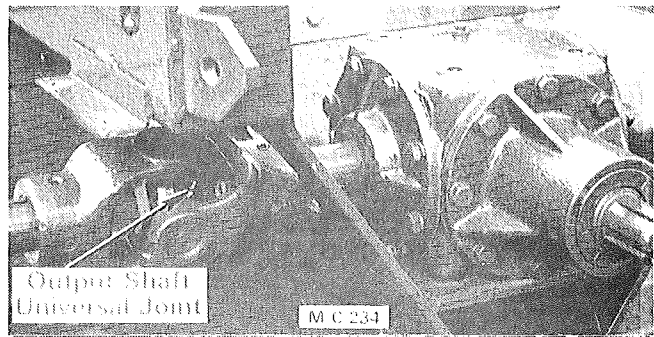

Figure 23 – Two on All Models
4. Output shaft universal joint, see Figure 23, located under the output shaft guard.